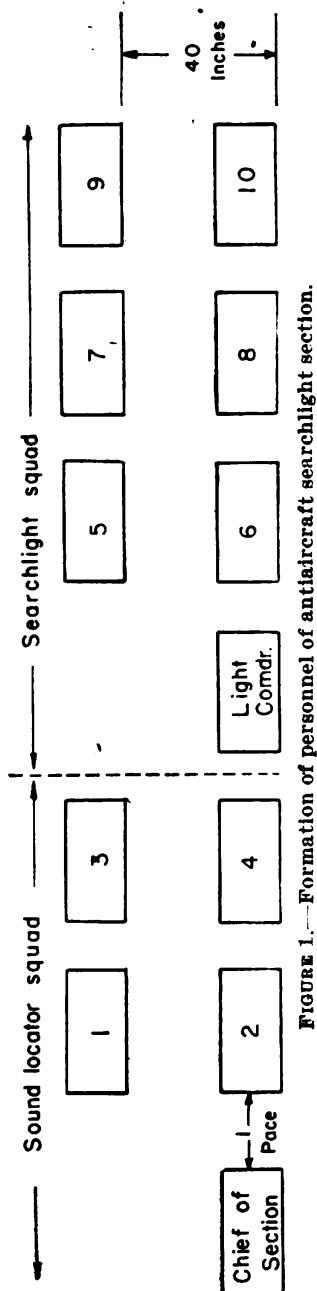

FIGURE 1.—Formation of personnel of antiaircraft searchlight section.
See figure 1.
Q. Of what personnel does the searchlight squad consist?—**A.** See figure 1.